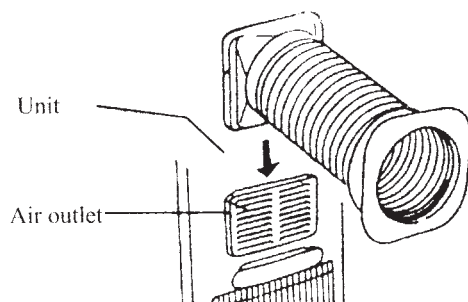

Fig.188
(1) When cooling, attach one end of the exhaust air outlet of the unit to the dehumidifier air outtake
(2) Attach the other end of the duct to the nearby window, see fig 188,189.